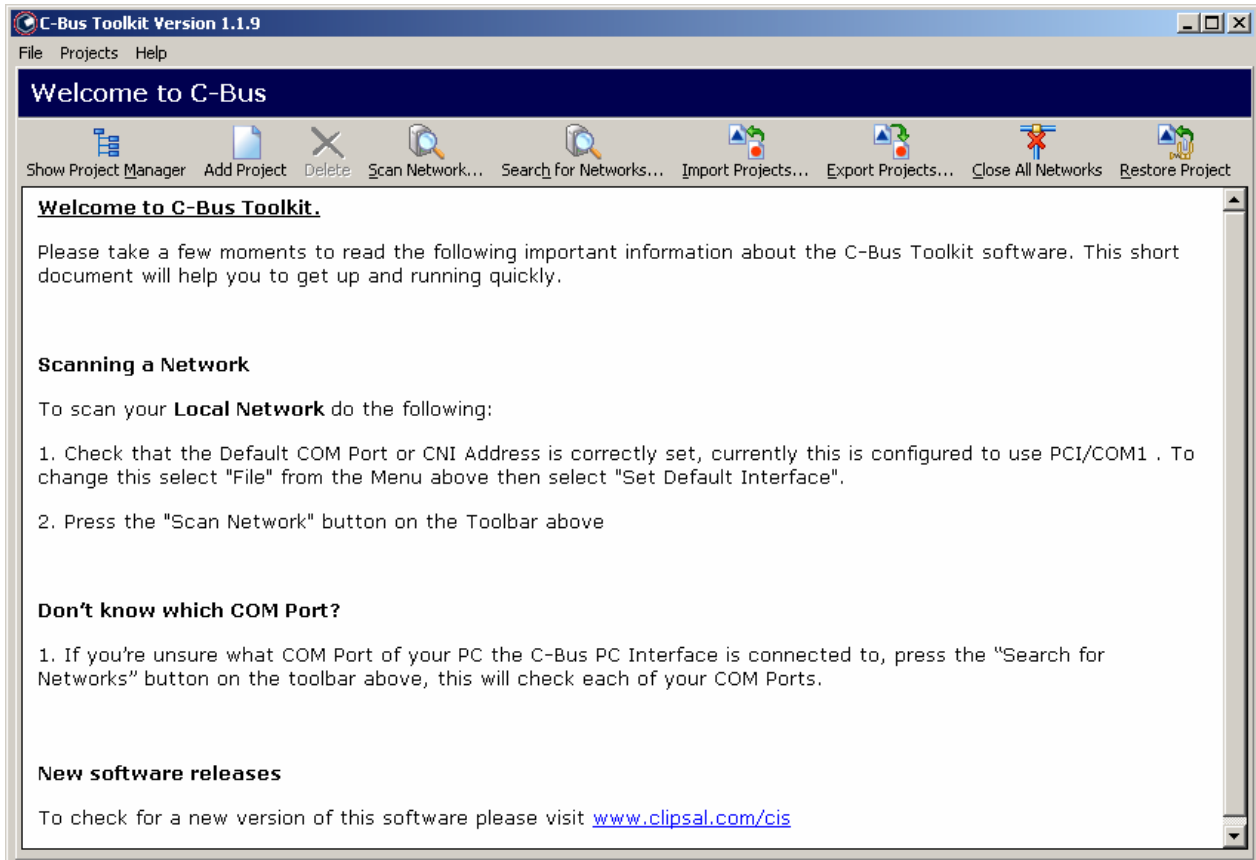

Figure 17
- 1) Open the C-Bus Toolkit to display the screen in Figure 17.